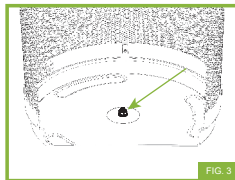

FIG. 3
- 7 Insert Lag Bolt through inside of bin into hole in ground surface until flush, then tighten Lag Bolt with a 9/16" socket wrench until snug. **(FIG. 3)**